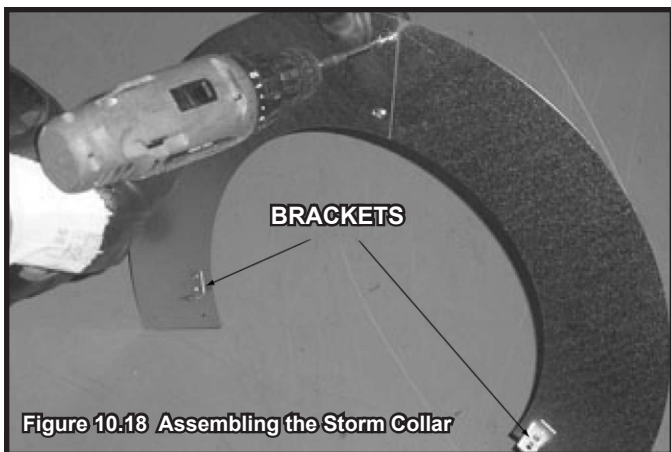

Figure 10.18 Assembling the Storm Collar
- Connect both halves of the storm collar with two screws (see Figure 10.18).